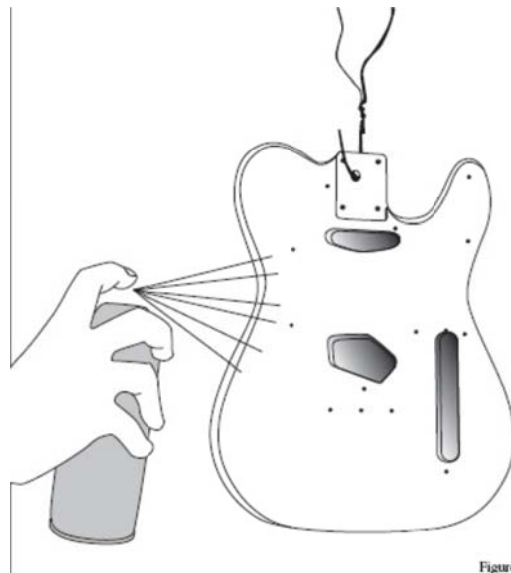

Figure 1
- Hang the body as shown in *Figure 1*. Begin each spray stroke in the air on one side of the body and continue until you reach the air on the other side. Overlap each stroke by one half, and every other stroke spray crosswise, then length wise. This technique will provide an even colour distribution.